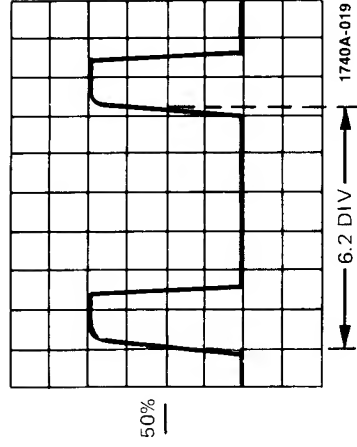

Figure 16. Time Interval Measurement
5. Using horizontal POSITION, place the 50% point of the first pulse on a convenient graticule line and count the number of divisions to the 50% point of the second pulse (see figure 16).